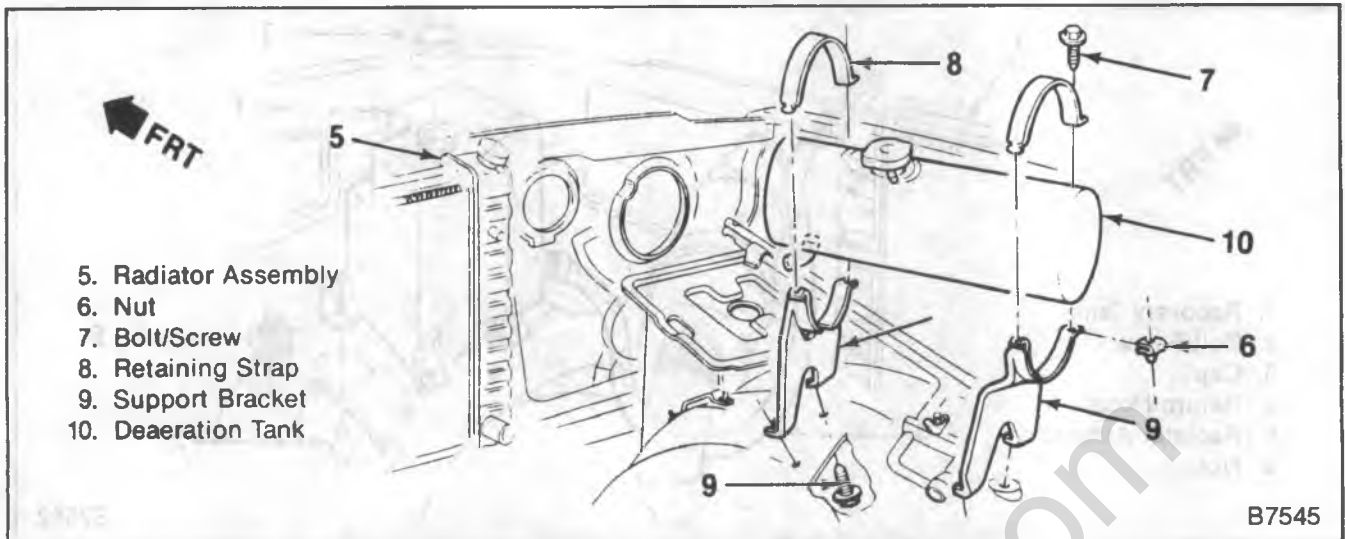

Figure 8—Surge Tank Installation (R/V Models)
↔ Remove or Disconnect (Figures 8, 9 and 10)
1. Coolant from the surge tank (10).
3. Return hose (12) from the surge tank (10).
4. Surge tank (10) from the vehicle.
- Bolts or screws (7) and the retaining straps (8) from the support brackets (9) (figures 8 and 10) (R/V and P-Models).
↔ Install or Connect (Figures 8, 9 and 10)